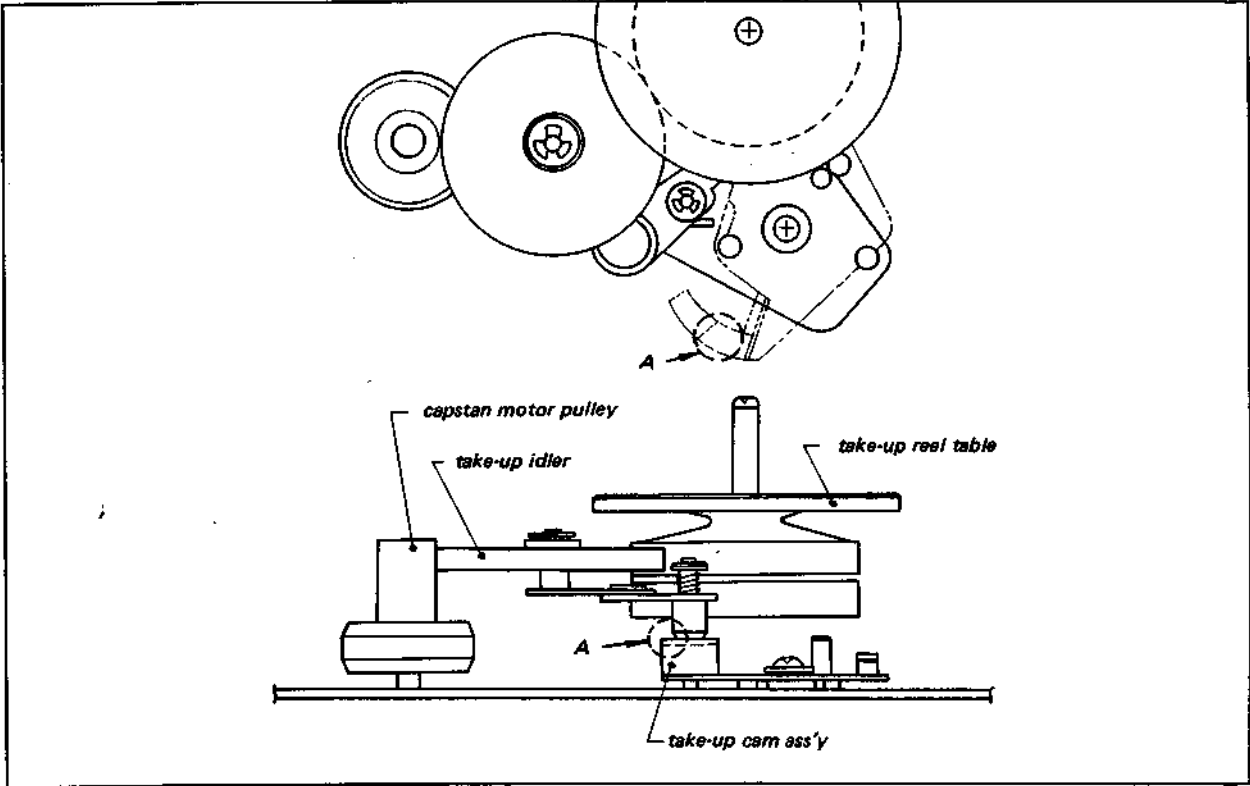

Fig. 4-12. Take-up idler height
2. If this condition does not exist, place the Function Lever in the FORWARD position. Bend Finger A with a pair of pliers as shown in Fig. 4-12 to obtain the correct Take-up Idler height.